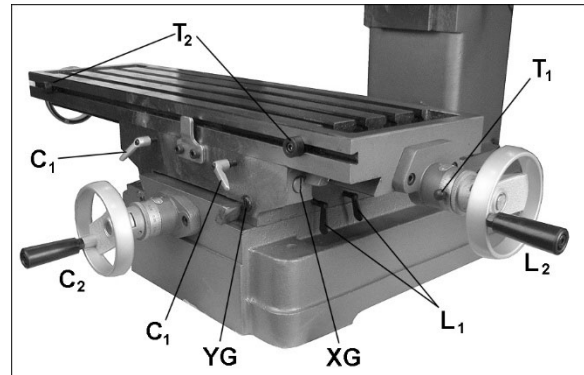

Figure 7-3: table and gib adjustments
See Figure 7-3.
- The X-axis gib adjustment screw (XG, Figure 7-3) is found on right side of saddle beneath table. The Y-axis gib adjustment screw (YG, Figure 7-3) is found to the right on the table face.